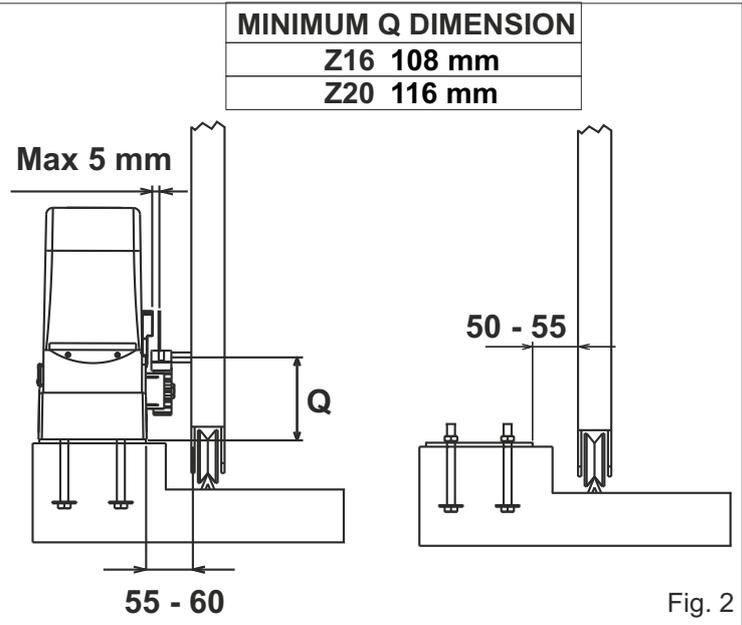
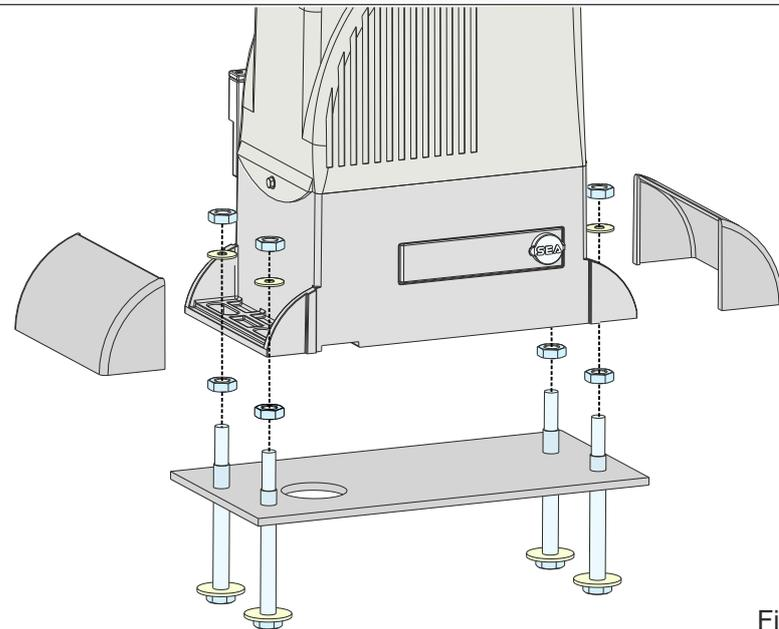
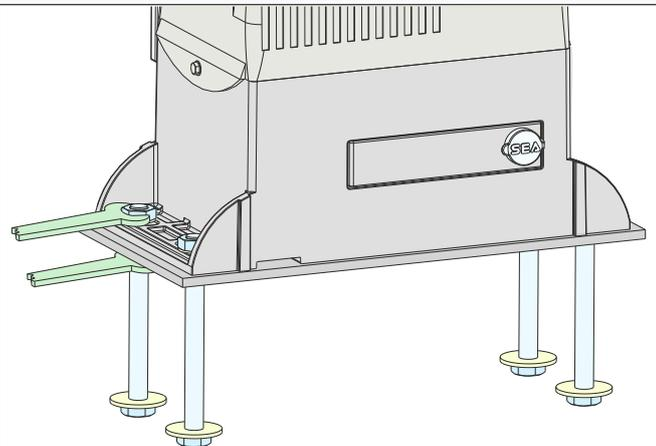

Fig. 2
Fig. 4
Fig. 5
2.3. Before concreting the plate, make sure that it is perfectly levelled and that the distance of 50-55 mm as shown in Fig. 2 is respected
4.1. Secure the gearmotor to the foundation plate using the supplied nuts and washers (Fig. 4), then adjust the lateral position and height (Fig. 5) to comply with the quotas mentioned in Fig. 2
4.2. Insert the two interlocking side covers (Fig. 4)